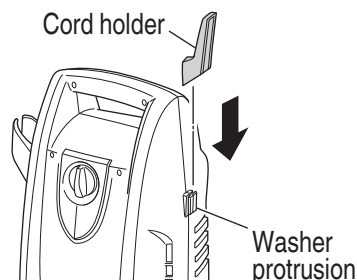

Fig. 2
6. Attaching the cord holder (Fig. 2)